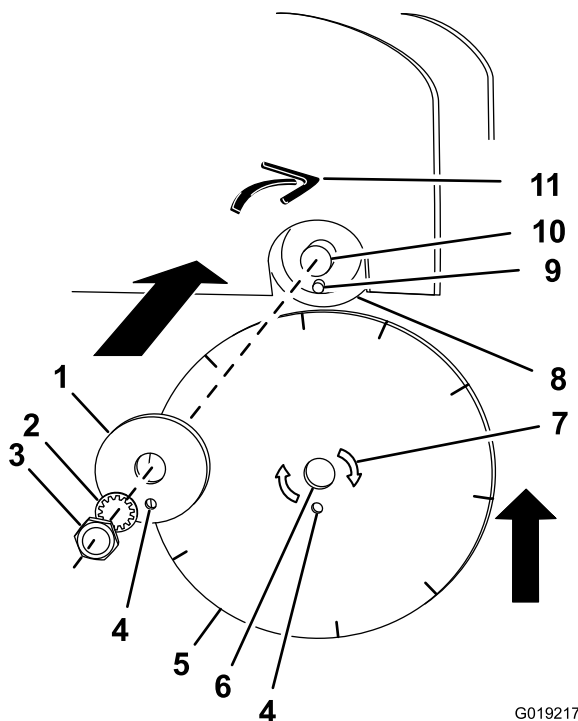

Figure 17
- B. Align the arbor hole in the saw blade to the arbor and move the blade toward the inner collar (Figure 17).
- C. Align the drive-pin hole in the blade to the drive pin that is protruding from the inner collar. Seat the blade against the inner collar (Figure 17).
- D. Align the outer collar to the arbor and move it toward the blade (Figure 17).
- E. Align the drive-pin hole in the outer collar with the drive pin protruding through the saw blade, and then seat the collar against the blade (Figure 17).
- G. Install the lock washer and arbor nut (Figure 17).